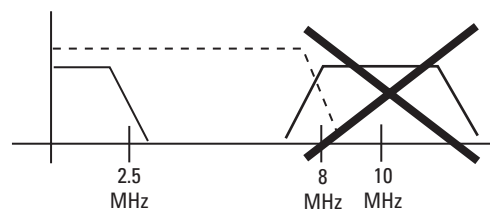
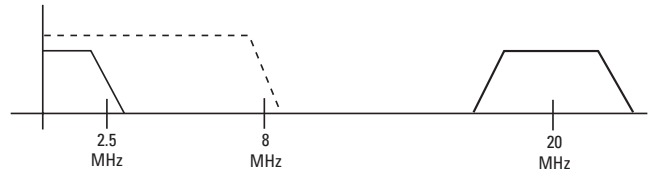

Figure 18. WLL with a 5 MHz chip rate, 8 MHz reconstruction filter, and OSR of 2
Figure 19. WLL with a 5 MHz chip rate, 8 MHz reconstruction filter, and OSR of 4
3. *Select an oversample ratio (OSR).* The oversample ratio, in conjunction with the symbol rate, determines the sample rate (sample rate = OSR x symbol rate). In digital-to-analog conversion, sampling images are created at offsets equal to the sample rate. These images need to be sufficiently attenuated by the reconstruction filter to avoid distortion. With an oversample ratio of two, the sampling image will be centered at 10 MHz ($5 \text{ MHz symbol rate} \times 2$), resulting in a significant interfering signal at less than 7.5 MHz (Figure 18). This is below the reconstruction filter cut off. An OSR of four, however, moves the sampling image to 20 MHz (Figure 19). This is sufficient to reject the sampling image with the reconstruction filter. For most applications, a minimum OSR of four is recommended. However, select the lowest oversample ratio possible to conserve memory.